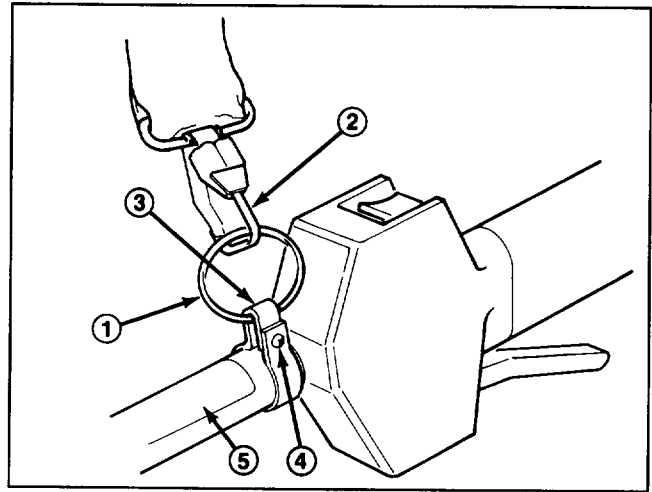

Figure 4
1. Insert ring into loop of clamp and install clamp over drive shaft tube between R.H. and L.H. hand-grips just ahead of throttle trigger housing as shown. DO NOT POSITION CLAMP ON TOP OF LABELS. Bend both ends of clamp together (Fig. 4).
1. Unsnap harness hook from ring (Fig. 4).